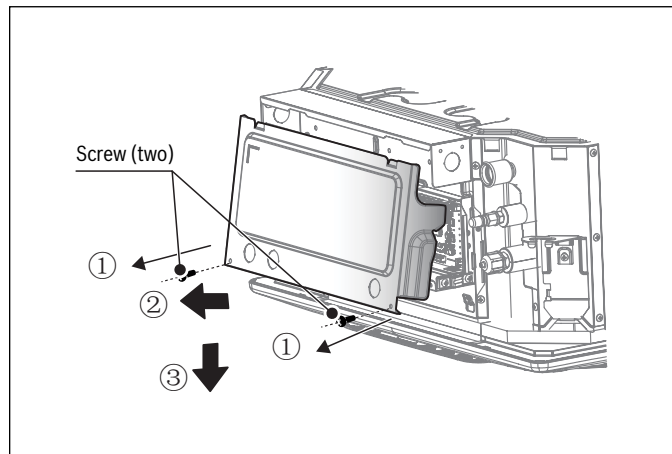

Figure 59
1. Remove the two screws shown in the Figure 59.